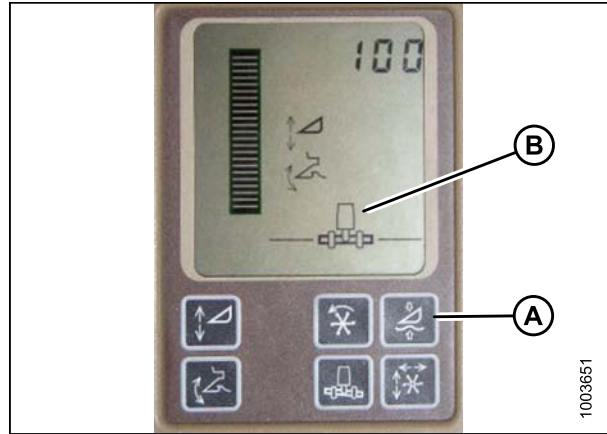

Figure 5.89: Combine Display
Do **NOT** use the active header float function (A) in combination with the MacDon Auto Header Height Control (AHHC)—the two systems will counteract one another. The header symbol (B) on the display should NOT have a wavy line under it and should appear exactly as shown on the Active Header Control Display in Figure 5.89: *Combine Display*, page 172.